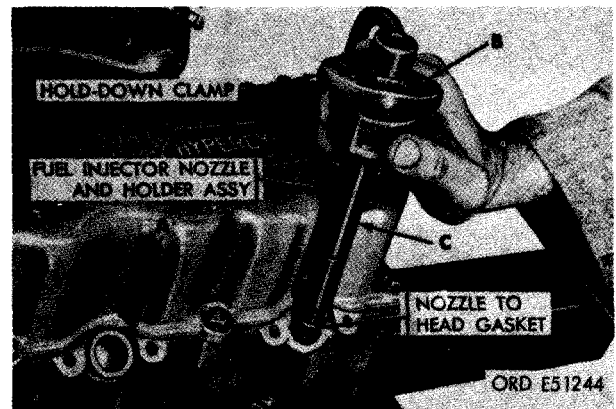

FIGURE 505. INSTALLING FUEL INJECTOR NOZZLE AND HOLDER ASSEMBLY.
a. Install Fuel Injector Nozzle and Holder Assemblies. Figure 505. (A) Remove protective plugs from fuel injector nozzle and holder openings. (B) Install nozzle hold-down clamp